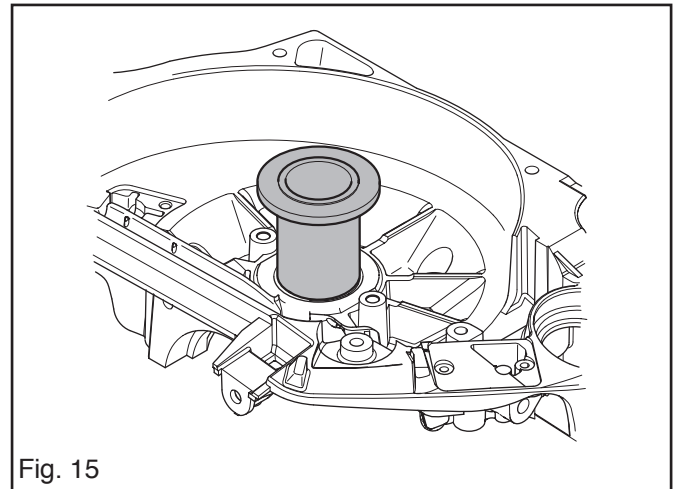

Fig. 15
3. Tap in the new seal with the sleeve from tool 502 50 30-20. See fig. 15.
4. Fit the parts in accordance with pos. 1 above.